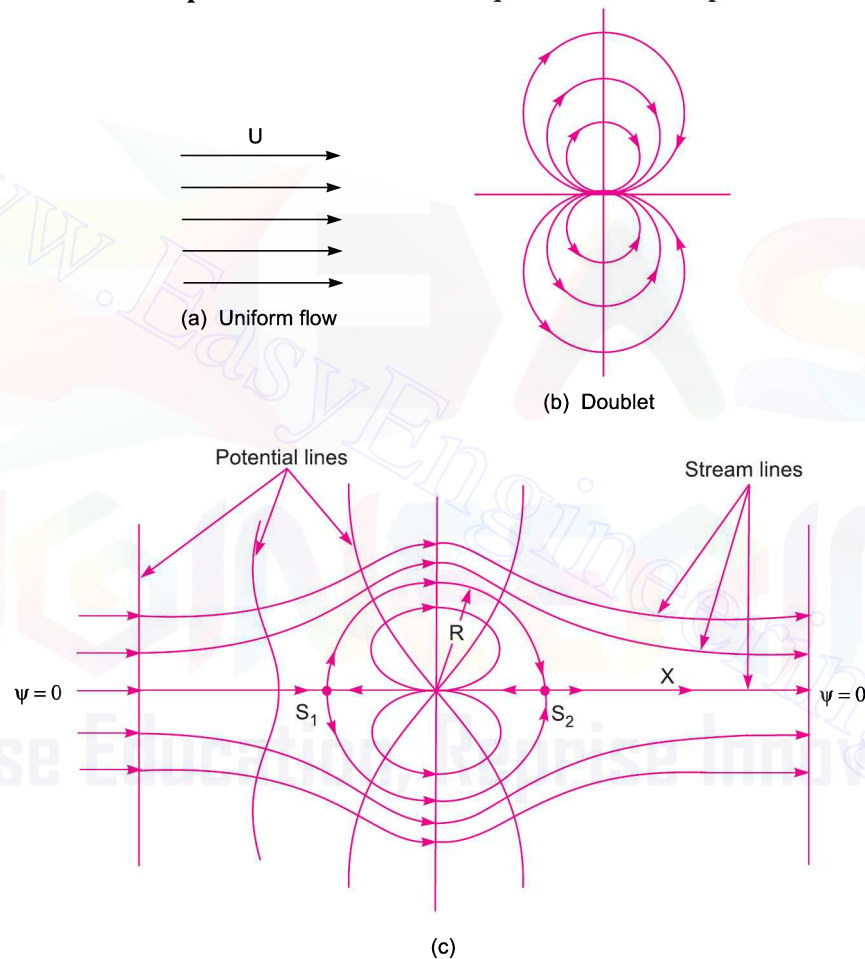

Fig. 5.53
**5.17.5 A Doublet in a Uniform Flow (Flow Past a Circular Cylinder).** Fig. 5.53 (a) shows a uniform flow of velocity  $U$  in the positive  $x$ -direction and Fig. 5.53 (b) shows a doublet at the origin. Doublet is a special case of a source and a sink combination in which both of equal strength approach each other such that distance between them tends to be zero. When the uniform flow is flowing over the doublet, a resultant flow will be obtained as shown in Fig. 5.53 (c). This resultant flow is known as the flow past a Rankine oval of equal axes or flow past a circular cylinder.